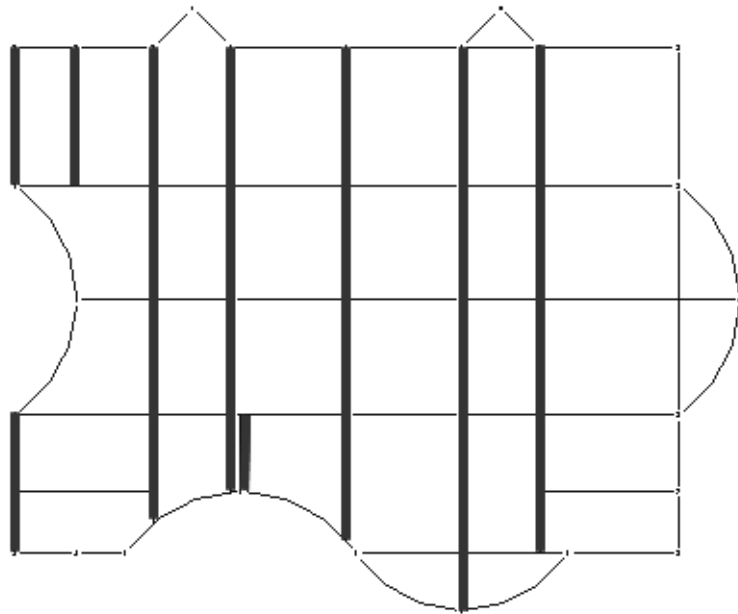

Figure 7–56
4. For this level you need to lower the perimeter beams of each bay in the North-South direction for the joist bearing. Select all of the vertical beams in the plan, excluding the beams along the far right, as shown in Figure 7–56.